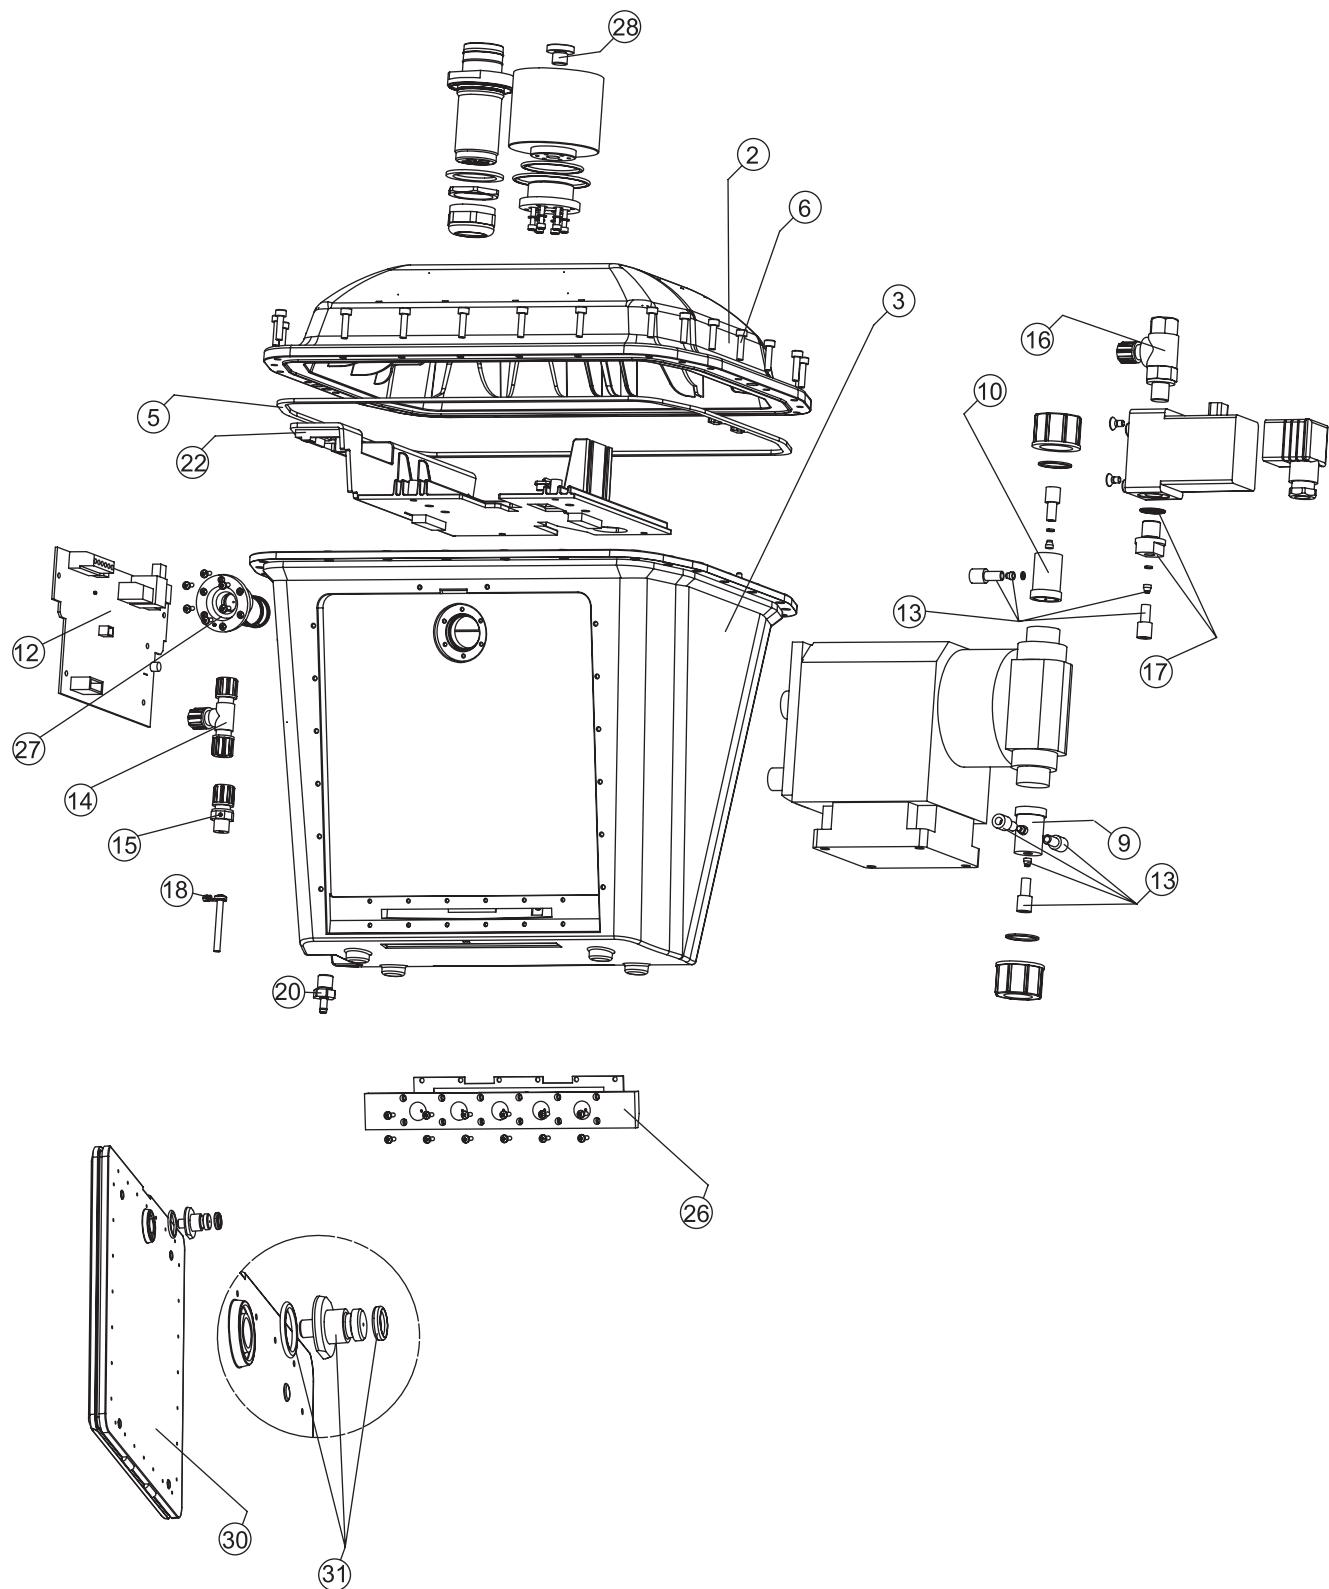
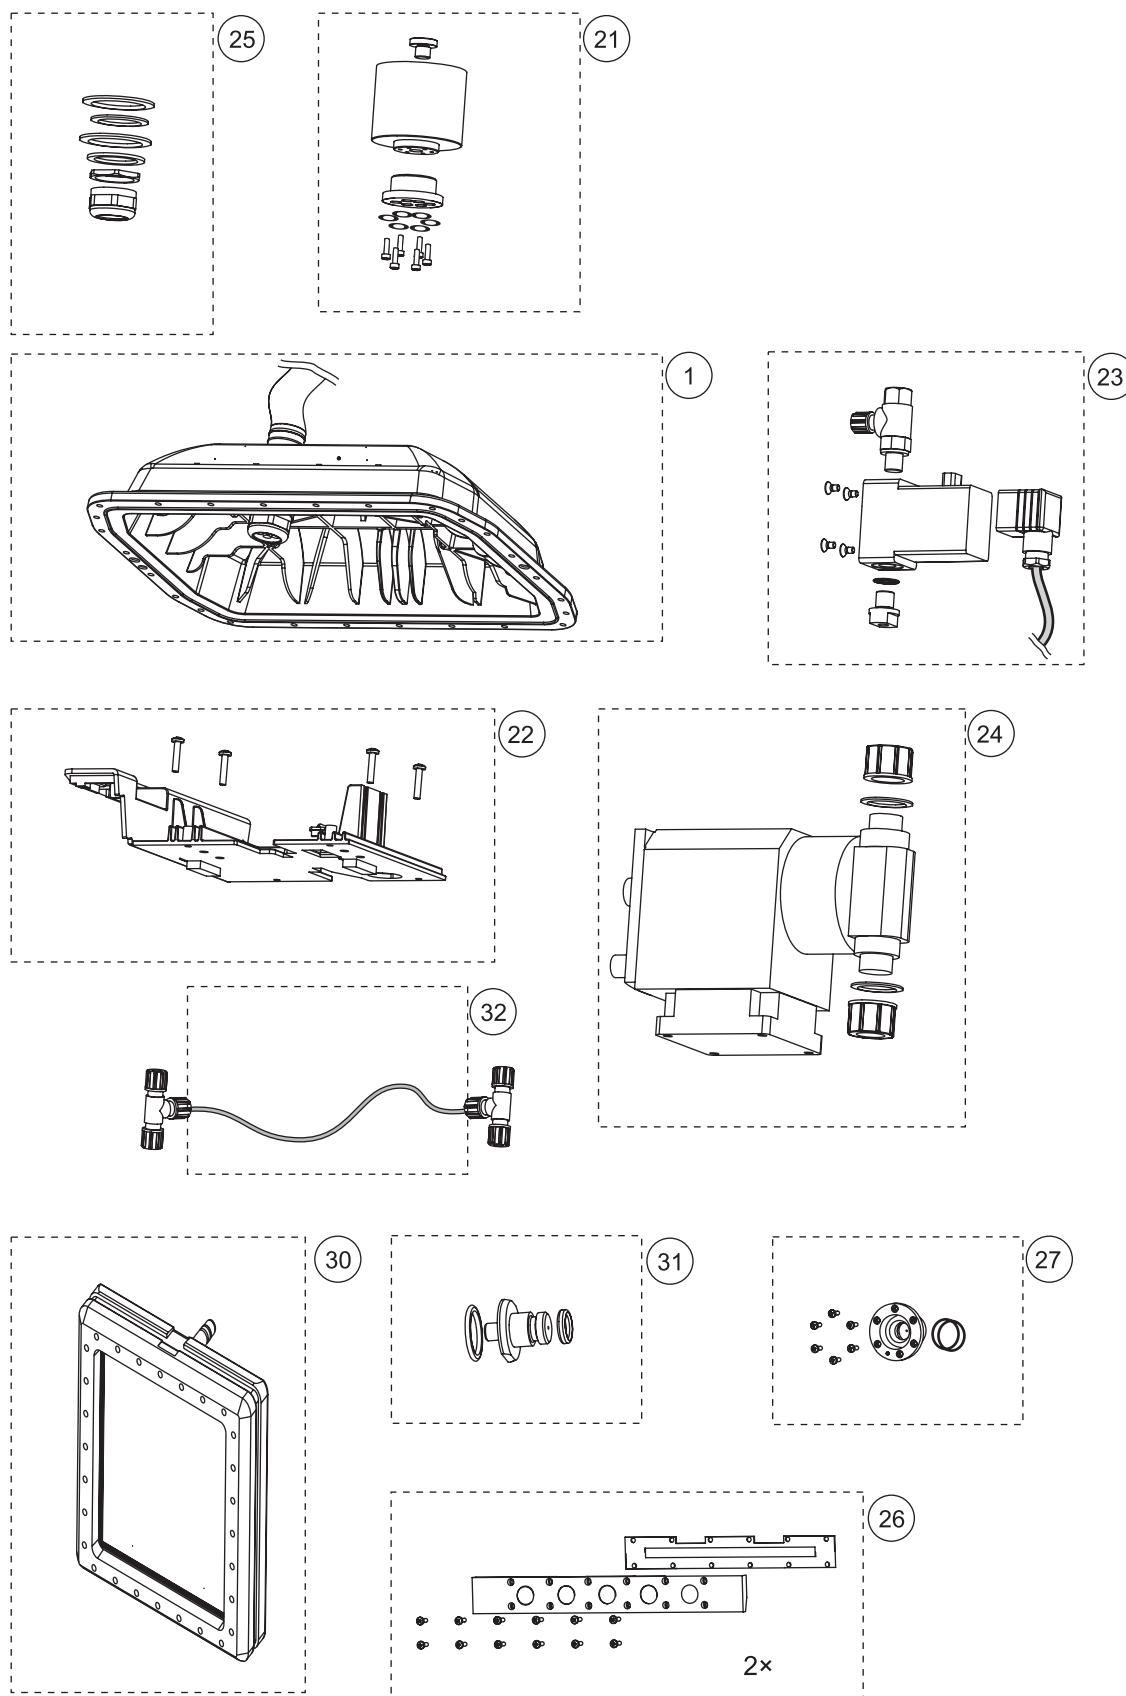

Figure 11
Figure 12
9.2 Replacement Parts (Refer to Figure 11 on page 26 and Figure 12 on page 27)